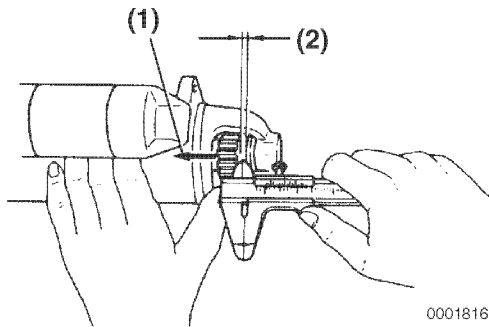
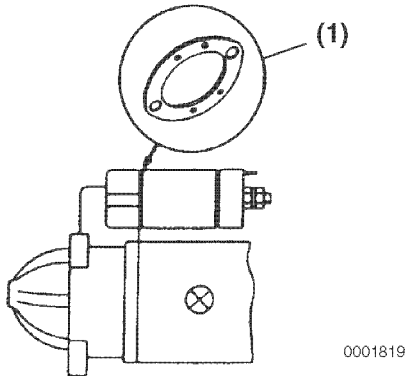

Figure 8-2
Figure 8-3
1. When the pinion is at the projected position, measure the gap (Figure 8-2, (2)) between pinion and pinion stop. This measurement should be made with the pinion pressed back lightly (Figure 8-2, (1)) to take up any play in engagement linkage. See Specifications on page 8-5.
2. If the measured dimension (Figure 8-2, (2)) is not within specifications, adjust the dust covers to obtain the standard range. Dust covers (Figure 8-3, (1)) are available in 0.020 in. (0.5 mm) and 0.031 in. (0.8 mm) thicknesses.